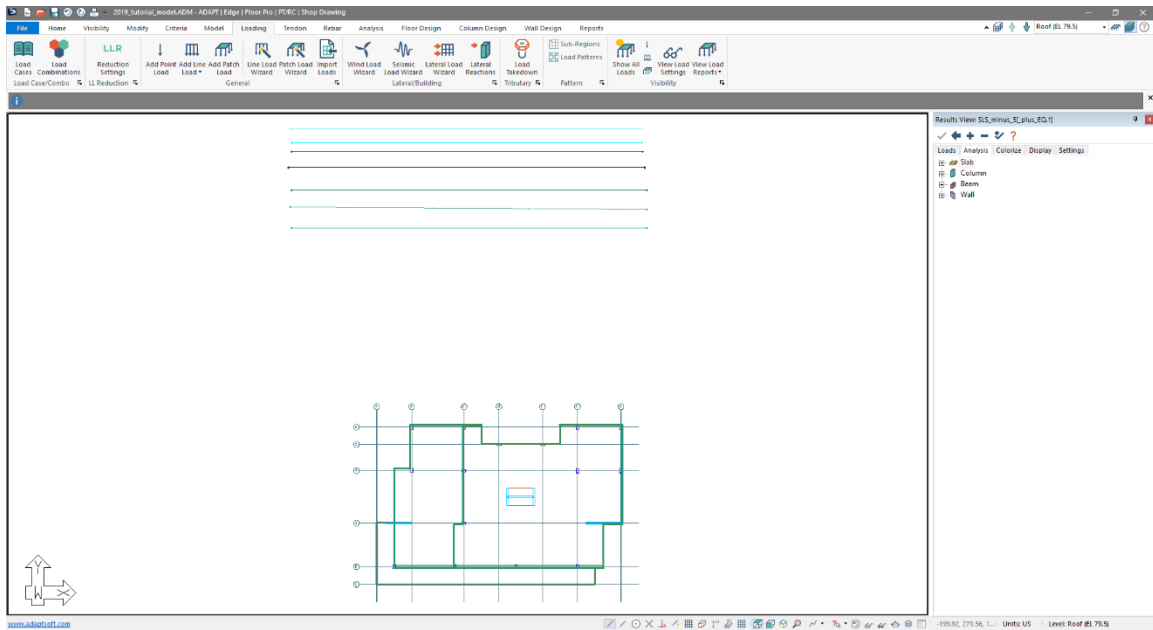

Figure 12-3
- Click on the *Top View*  icon in the **Bottom Quick Access Toolbar**. The user's screen should now look as shown in **FIGURE 12-3**.